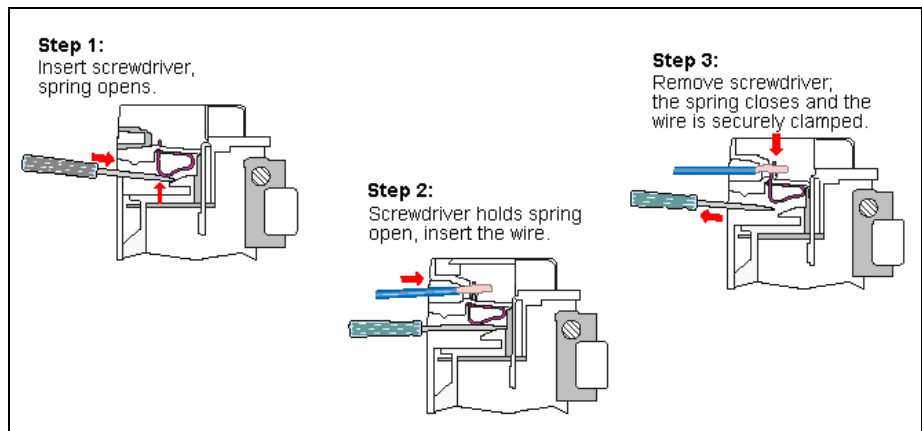

Figure 9: Cage Clamp Connections
6. Make the following connections, as shown in **Figure 9**: